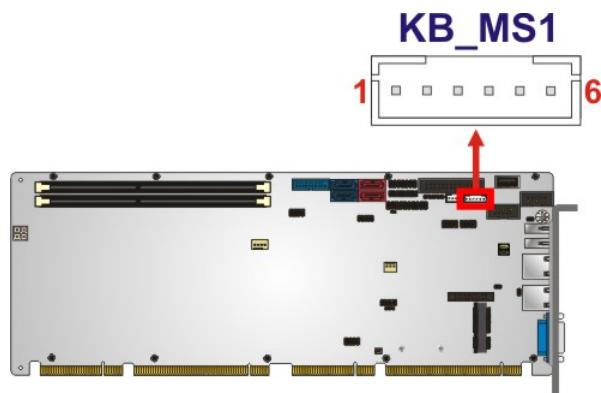

Figure 3-15: Keyboard and Mouse Connector Location
**CN Location:** See **Figure 3-15**